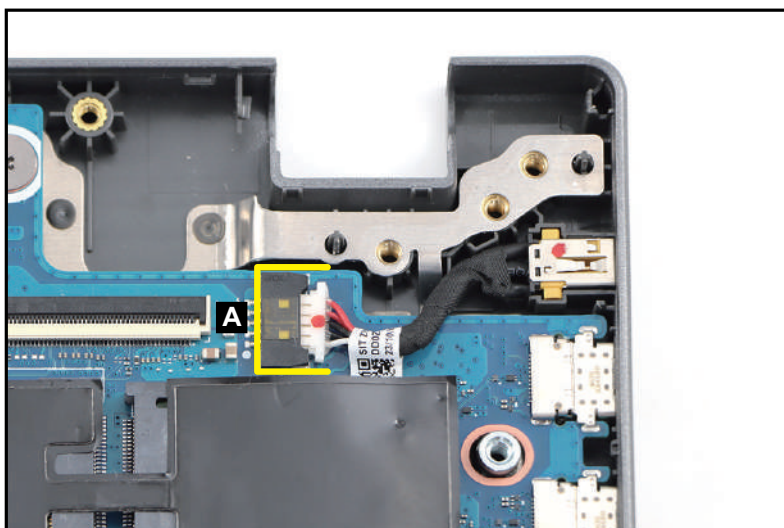

Figure 3-56. DC-IN Cable Removal
1. Disconnect the DC-IN cable from the mainboard connector (A) (Figure 3-56).